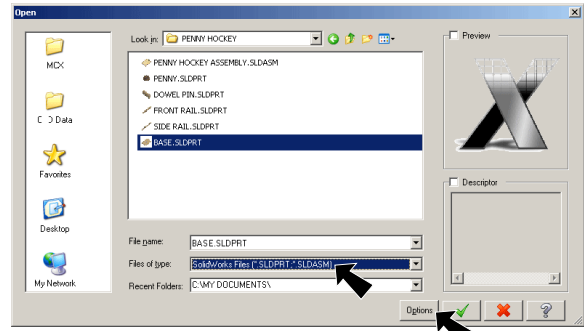

Fig. 1
Step 3. In the Open dialog box set **Files of type** to **SolidWorks Files**, select your **BASE** file and click **Options**, Fig. 1.